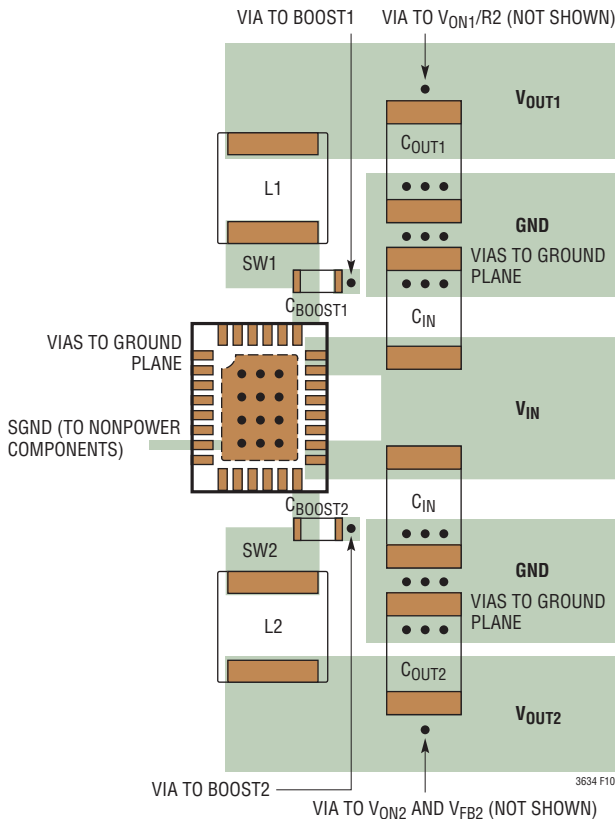

Figure 10. Example of Power Component Layout for QFN Package
- Flood all unused areas on all layers with copper in order to reduce the temperature rise of power components. These copper areas should be connected to the exposed backside of the package (PGND). Refer to Figures 10 and 11 for board layout examples.